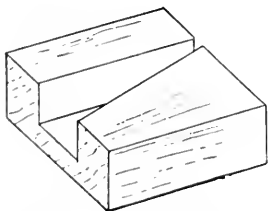

Fig. 19. SLIP HOLDER.
*Slips.* These are pieces of Arkansas, Turkey, and other stones, made of a variety of shapes, to fit the inside of such tools as cannot be sharpened on a flat surface, like that of oil-stone. They require great care in handling lest the fingers be cut. To avoid this, take a piece of wood, and cut a deep groove in it, exactly adapted to hold the stone firmly, leaving as much of it projecting as may be required for use, Fig. 19. If you cannot obtain a slip exactly suited to